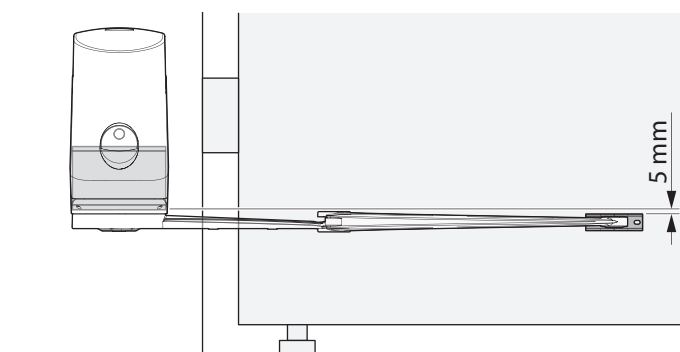

Fig. 4
⚠ WARNING! – Before fixing the rear bracket, make sure that the front bracket will be fixed to a solid position of the gate leaf; the front bracket will have to be secured at a different height than the rear bracket (Fig. 4).
02. Define the front bracket position height in accordance with **Fig. 4**;